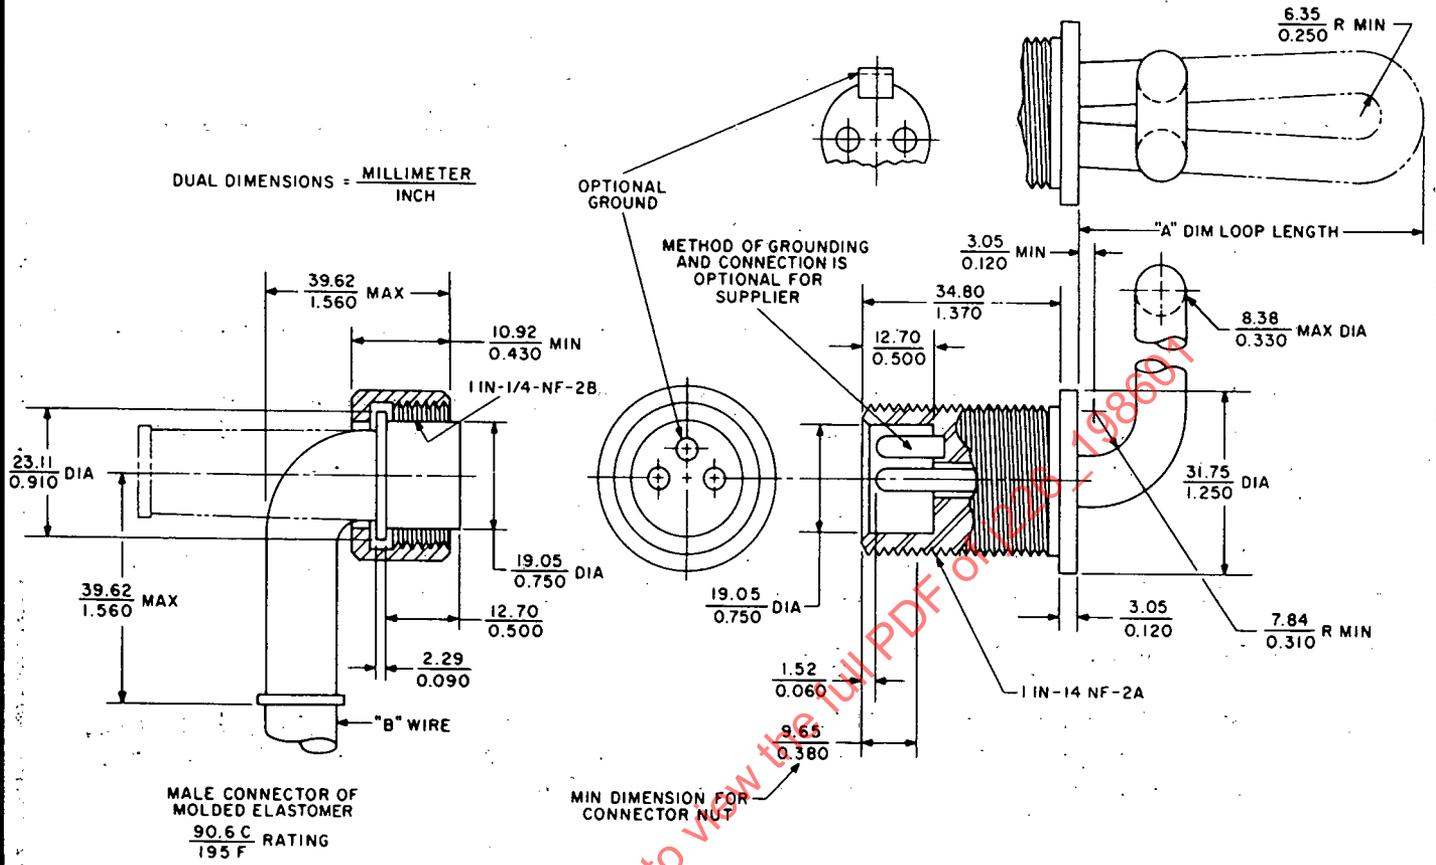

FIG. 1
See Fig. 1 and Table 1.
- 3.2 **Pipe Thread Adaptor Design:** This type is used where space within the cooling jacket allows clearance for a loop. (See Fig. 2 and Table 2.) Where the heater is screwed into a removable flange, the loop may be shaped as shown in Fig. 1.